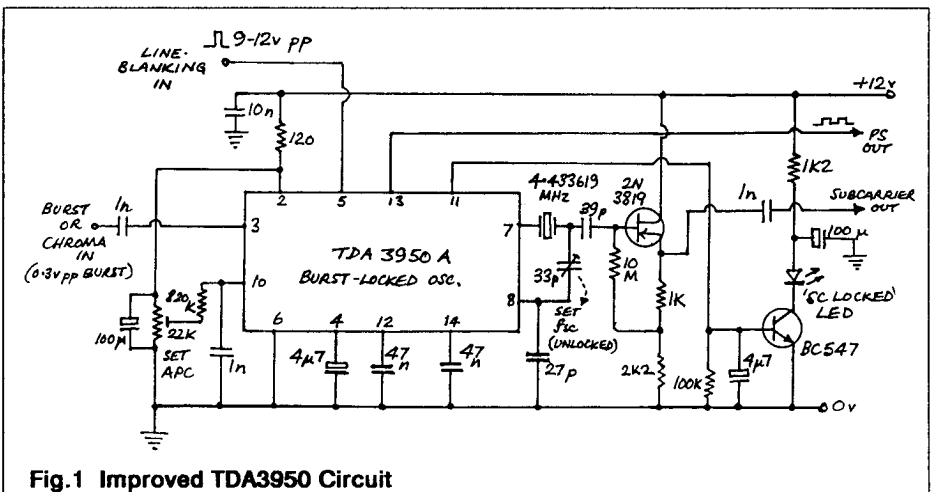

Fig.1 Improved TDA3950 Circuit
So let's get it clear - the pulse required on pin-5 of the TDA3950(A) is LINE BLANKING, 9-12vpp. It must be continuous throughout the field period, as its leading edge triggers PS, and it must cover the back-porch line period, as it is used to gate the burst. If you do that, the circuit is pretty reliable, so long as it is fed with a reasonably constant level of chroma - unfortunately the TDA3950 does not include an ACC circuit. See Fig.1.